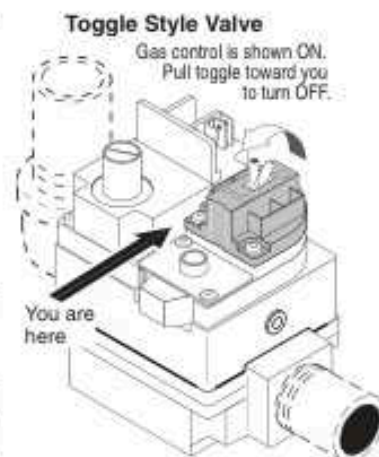

Figure 38.
6. **Toggle-Style Valve:** Pull toggle toward you to turn gas off, see Figure 38.
7. Wait five (5) minutes to clear out any gas. If you then smell gas, **STOP!** Follow "B" in the "Before Start-up" instructions (page 38). If you don't smell gas, go to the next step.
4. **Toggle-Style Valve:** Pull toggle toward you to turn gas off, see Figure 38.